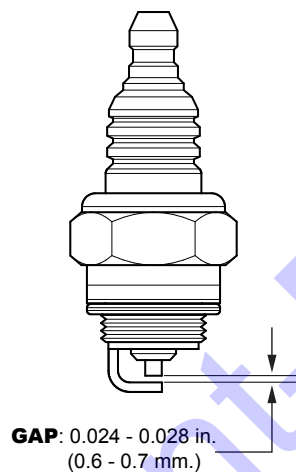

Figure 30. Spark Plug Gap
- Remove and clean the spark plug (Figure 30), then adjust the spark gap to 0.024 ~0.028 inch (0.6~0.7 mm). This unit has electronic ignition, which requires no adjustments.